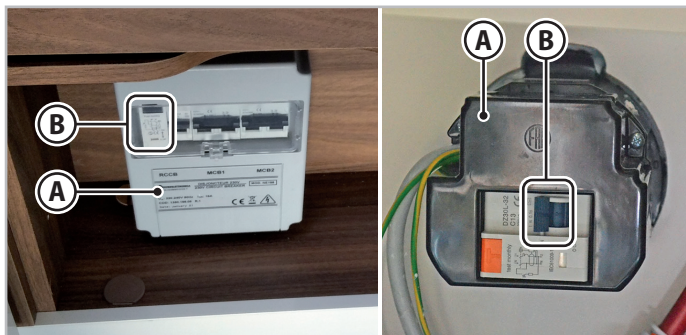

Fig. 6.32 - Power supply panel
The vehicle's 220 V (**A** - Fig.6.32) power supply panel is protected by a two-pole magnetic thermal-differential switch (**B** - Fig.6.32). The power supply socket has a third earth pole as required by law.
1. Lower the levers (**B** - Fig.6.32) of the differential switch.
5. Lift the levers (**B** - Fig.6.32) of the differential switch.
1. Lower the levers (B - Fig.6.32) of the differential switch.
5. Lift the levers (B - Fig.6.32) of the differential switch.